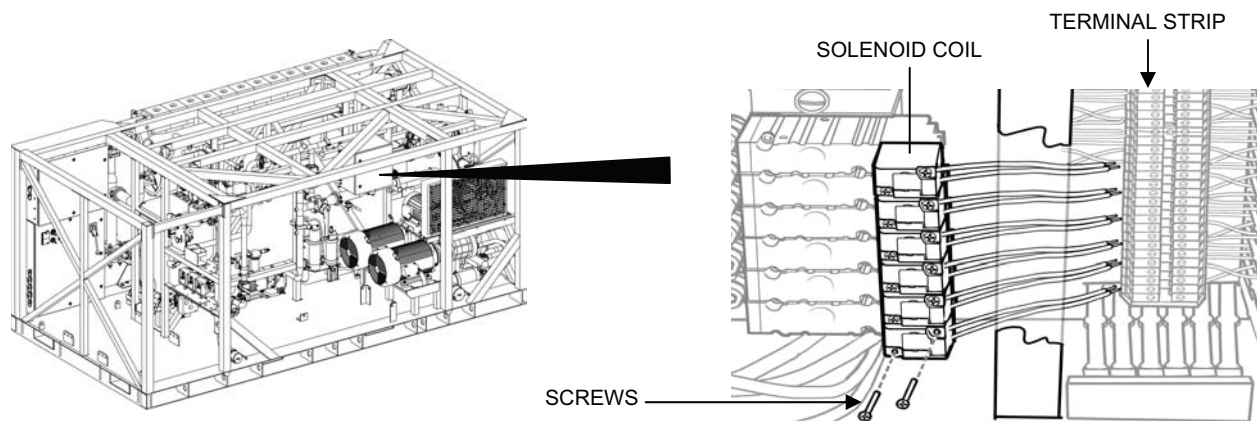

Figure 10. Solenoid Coil Replacement.
2. Remove a solenoid coil as follows (see Figure 10):